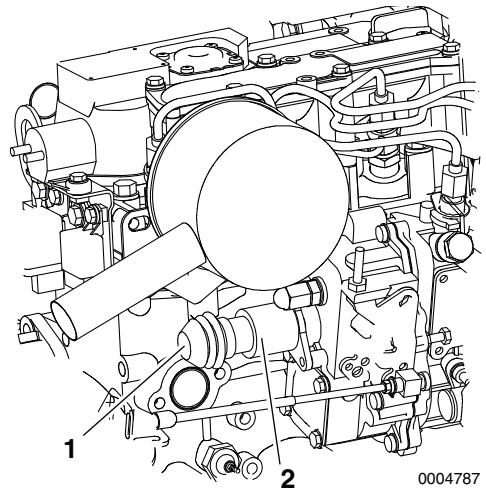

Figure 4
If the engine cannot be shut down by the stop switch on the panel, stop the engine by pushing the button **(Figure 4, (1))** at the back of the stop solenoid **(Figure 4, (2))**.